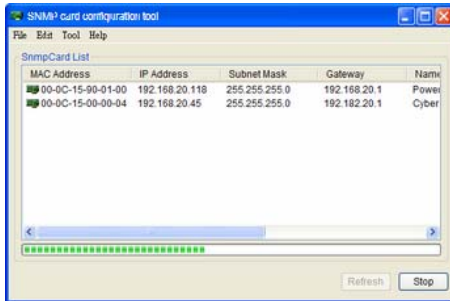

Figure 1. The main window of the "SNMP Card Configuration Tool" program.
3. The main dialog of the "SNMP Card Configuration Tool" program is shown as Figure. 1. The configuration tool will display all the SNMP cards present on the network. The "Refresh" button is used to search the entire local network for SNMP cards.